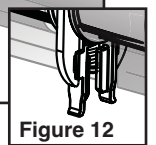

Figure 12
12. Insert the leveling screw into the adjustable adapter. This screw serves as a locking mechanism as well as a height adjuster. It is not possible to remove the adjustable adapter with the leveling screw in place. (Figure 12)